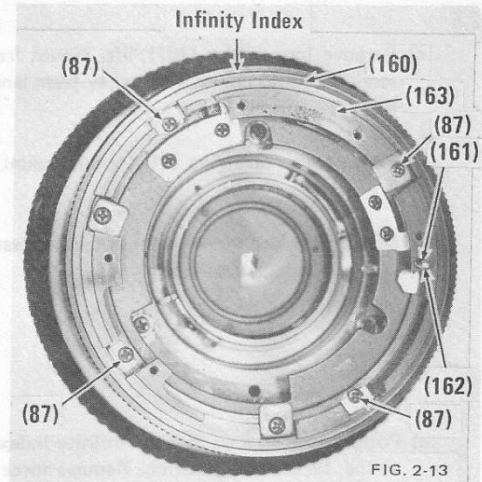

FIG. 2-13
- f) Remove the EE switch pin (161) and spring (162). Fig. 2-13.
- g) Position the lens so that the infinity index line is at the 12 o'clock position. Remove four screws (87) that attach the mount frame (163) to the inner helicoid. Fig. 2-13.
- h) Remove aperture ring (160) and mount frame. (Mount frame retains aperture ring in position.) Fig. 2-13.